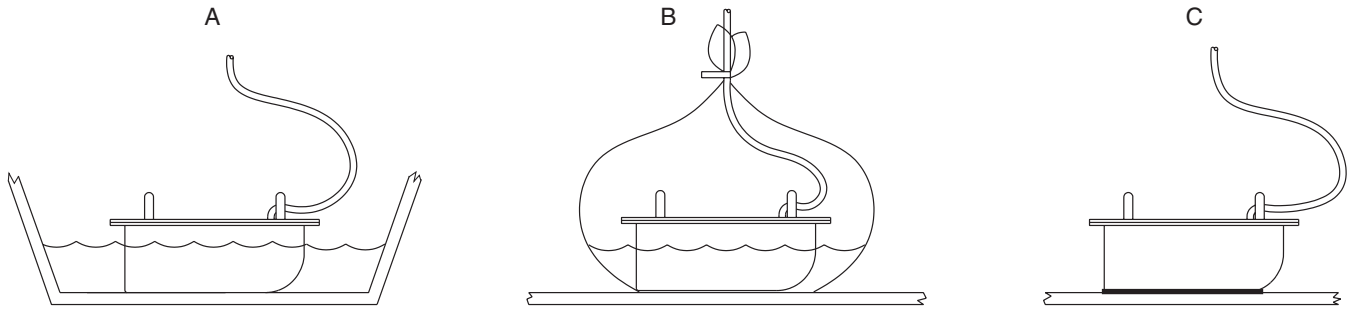

Figure 4. Testing the transducer at the selected location—M260 shown
- A. This method is recommended if the transducer will be located near the stern and the boat has a minimum deadrise angle. Clean away any build-up of dirt and/or grease using detergent or a weak solvent such as alcohol. Place the transducer against the hull and flood the area with bilge water to cover the surface where they touch (see Figure 4-A).
This method can be used at any location. If the hull surface is not smooth, grind it with a disc sander. Place the transducer inside a thin plastic bag. Partially fill the bag with water and close it tightly with a twist-tie. Wet the surface of the hull and press the active face of the transducer against it through the bag (see Figure 4-B).
This method can be used at any location. If the hull surface is not smooth, grind it with a disc sander. Coat the active face of the transducer with a water-based lubricant (such as K-Y® jelly). With a twisting motion, press the face firmly against the hull (see Figure 4-C). After testing, wipe away all traces of the lubricant from the transducer's face.